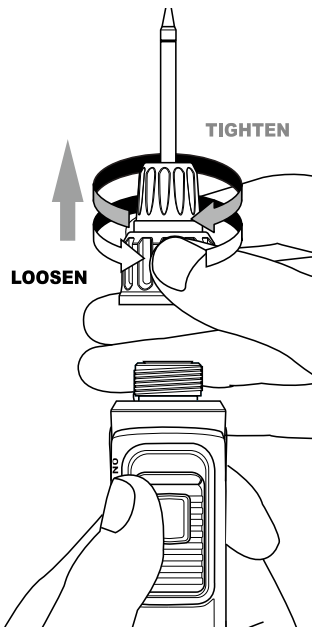

FIG. 1
2. Screw in new tip rotating locking nut clockwise (Fig.1) – making sure not to over tighten.